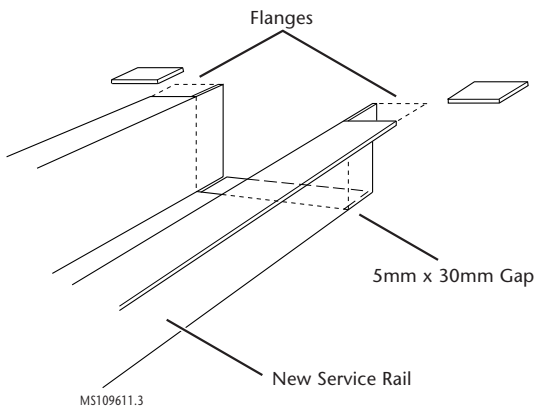

Figure 11-3:
- 3 Cut and remove 30mm (1 $\frac{3}{16}$ in) from the flanges on either side of the service rail to create 30mm (1 $\frac{3}{16}$ in) tabs. Cut 5mm ($\frac{3}{16}$ in) wide gaps in the bottom corners (figure 11-3).